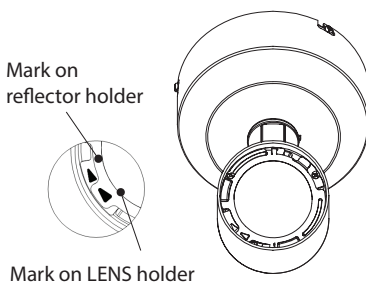

Fig 8
**Step 4:** Align the triangle mark on the lens holder to the one on the reflector holder, then rotate clockwise to lock it. (See Fig 8)